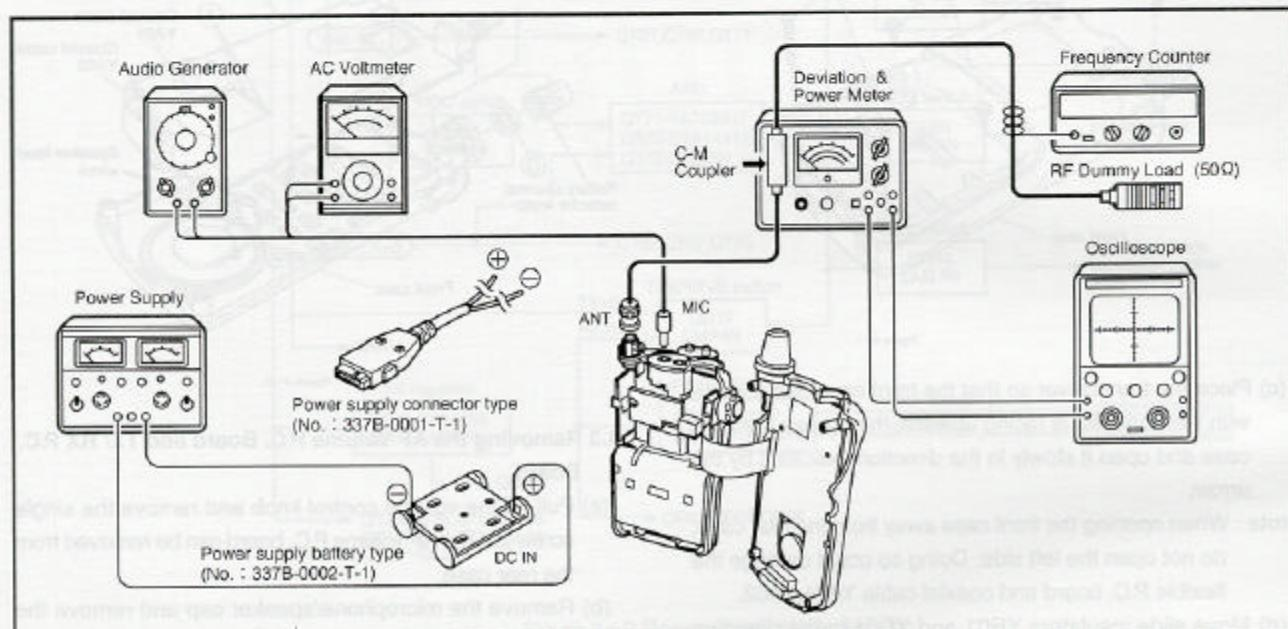

Figure 5-1 Transmission connection diagram
- Apply an 8.4 V voltage from interface jack YD02 to the transceiver. (Use the power supply connector type. See figure 5-1)
(a) Apply an 8.4 V voltage from interface jack YD02 to the transceiver. (Use the power supply connector type. See figure 5-1)